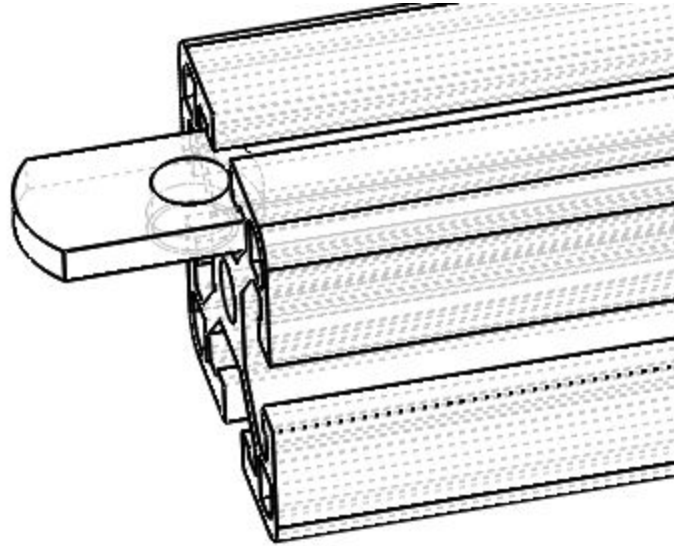

Fig. 3.6: Female part end fastener (#YREC) in the 4ft Single rail (#HJXK)
- Insert four female parts of the end-feed fasteners (#YREC) on the groove into the slot of one beam (#HJXQ). You may insert into any side of the beam, but must keep all four in the same side. Once inserted, turn the beam and make the side with the end-feed fastener parts facing up. As shown in Fig. 3.6.
- Insert eight female end-feed fastener parts (#YREC) on the groove of the slot in each beam (#HJXQ), the side of beam with fastener parts should facing up. (See Fig. 3.6)
- ❑ Insert **two** female parts of the end-feed fasteners (#YREC) on the groove into the slot of one beam (#HJXQ). You may insert into any side of the beam, but must keep all four in the same side. Once inserted, turn the beam and make the side with the end-feed fastener parts facing up. As shown in Fig. 3.6.